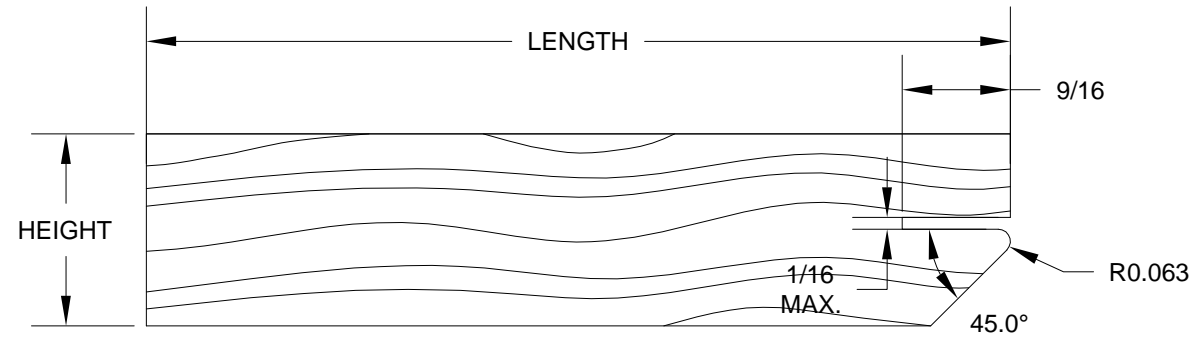
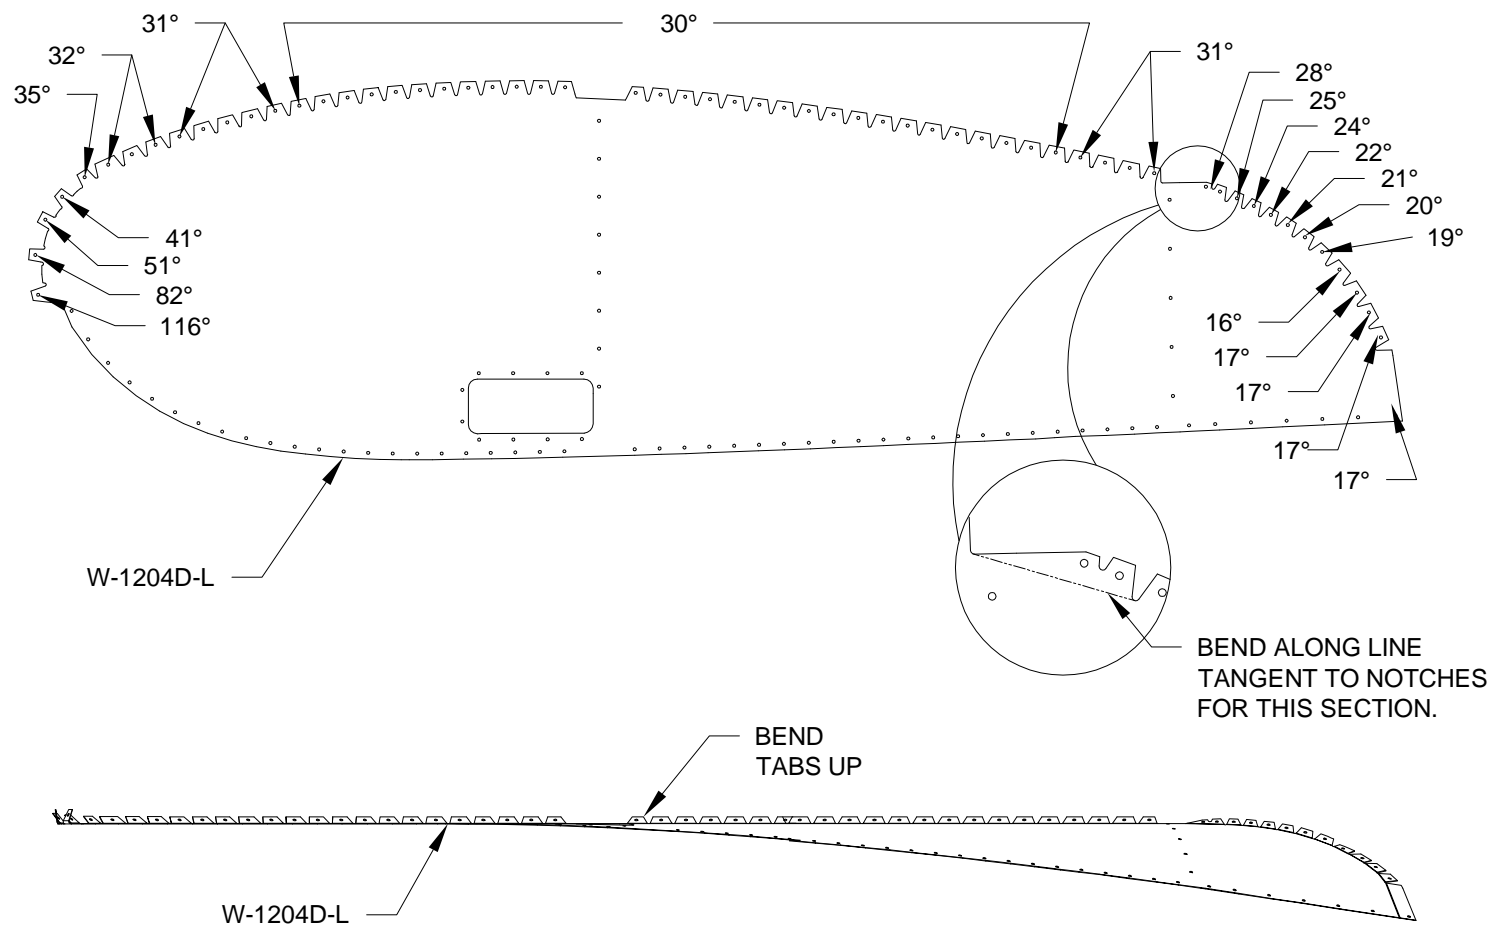

FIGURE 1: BENDING TOOL FABRICATION
FIGURE 2: MODIFYING THE WING TIP CLOSE-OUT (LEFT SHOWN)
Step 1: Fabricate a bending tool from a piece of wood 1/2-3/4 inches thick. See Figure 1. To use the bending tool, slide the slot in the bending block over the tab so that the edge of the tab hits the back of the slot and bend the tab. This will give the proper flange height. Bend the tabs of one of the W-1204D Wing Tip Close-Outs as shown in Figure 2. Set the bending tool aside for future use (Page 25-02, Step 1).